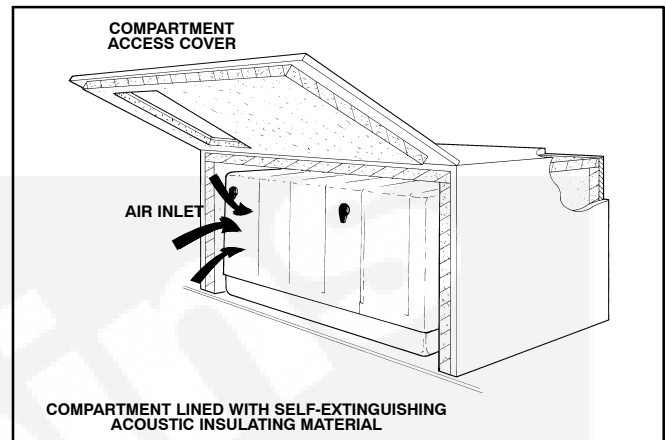

FIGURE 4. COMPARTMENT WITH ACOUSTIC INSULATION
7. See the outline drawing (Page 34) for the minimum inside dimensions of a genset compartment. If the compartment has acoustic insulation (Figure 4), increase the minimum compartment dimensions by the thicknesses of the insulation panels. The following minimum clearances are required between the genset and the compartment or its insulation:
8. Acoustic insulation and adhesive (Figure 4) should be Classified as “Self-Extinguishing” at not less than 200°F (90°C). Do not line the bottom of the compartment with insulation—insulation absorbs spilled fuel and oil.